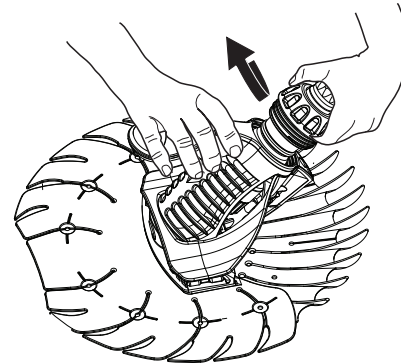

Figure 2
1. Unthread the handnut (see Figure 2).